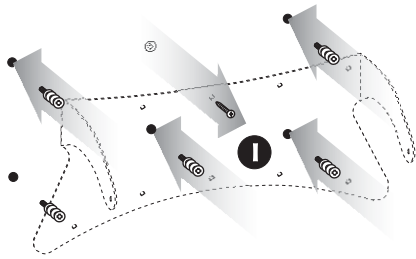

Figure 12. Remove the stand and drive in the 5 remaining wall anchors.
- 10 Remove the Cinema i stand from the wall and prepare the wall at each of the 5 marks using the procedure described in step 7 (figure 12, step I).